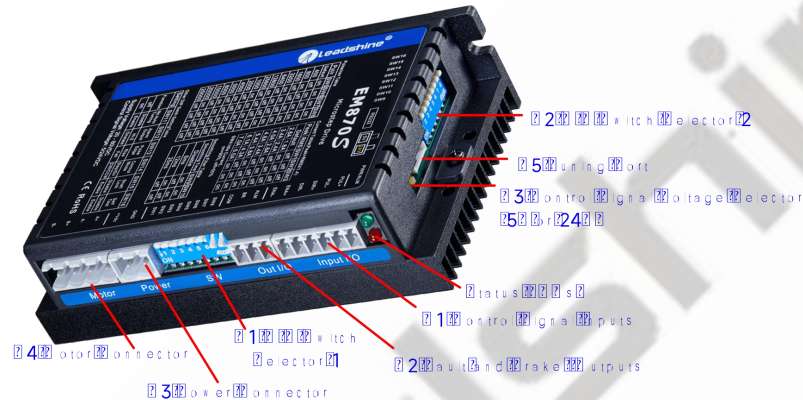

Figure 2 Connectors, DIP switches, and LED locations
DIR- (CCW-)	(4) Single pulse (step & direction) or double pulse (CW/CCW) is set by DIP Switch SW14 (5) DIR signal requires advance PUL signal minimum 5 μs in single pulse mode (6) The activated edge of PUL and DIR is set by DIP Switch SW13 (7) The factory setting of control signal voltage is 24V, must need to set S3 (figure 2) if it is 5V
ENA-	(3) ENA signal requires advance DIR signal minimum 5μs in single pulse mode (4) The default control signal voltage is 24V, to set S3 (figure 2) if it is 5V (5) Enable time to be at least 200ms
The DM870 can accept differential or single-ended control signals (pulse, direction, and enable) in open-collector or PNP connection through the P1 connector (figure 2). It is recommend to add an EMI line filter between the power supply and the drive to increase noise immunity for the drive in interference environments.
The first 8-bit is located on the side (DIP switch selector 1 in Figure 2) and used to configure settings of micro step resolution, output current, and motor standstill current as shown below, the factory setting of SW1-SW8 is **OFF, OFF, OFF, OFF, OFF, OFF, ON, ON**.
The second 8-bit DIP switch is located on the top (DIP switch selector 2 in figure 2), and used to configure settings of control command filtering time, motor auto-configuration, fault output impedance, pulse active edge, control mode, lock shaft, and self-test as shown below, the factory setting of SW1-SW8 is **OFF, OFF, OFF, ON, ON, OFF, OFF, OFF**.
The Third 1-bit selector is located on the top (DIP switch selector 3 in figure 2), used to configure the voltage of control signals. For the safety of optically coupled, the factory setting is 24V, which no need to connect 2K resistors like the old drives, making it easier to use. When the voltage of the control signal is 5V, the S3 must be set to 5V, otherwise, the motor won't work.